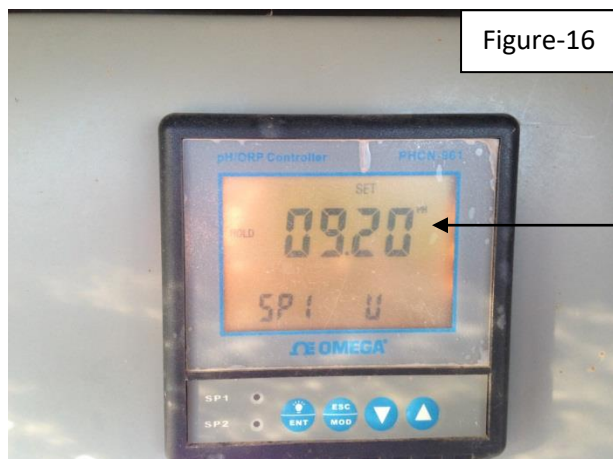

Figure-16
2.3.2.8. Use up (▲) and down (▼) arrows to set upper pH limit. See Figure-16. (Varies depending on algae strain. Ex. 9.20 for SE0107 and SE70181, 10.2 for Apollo).